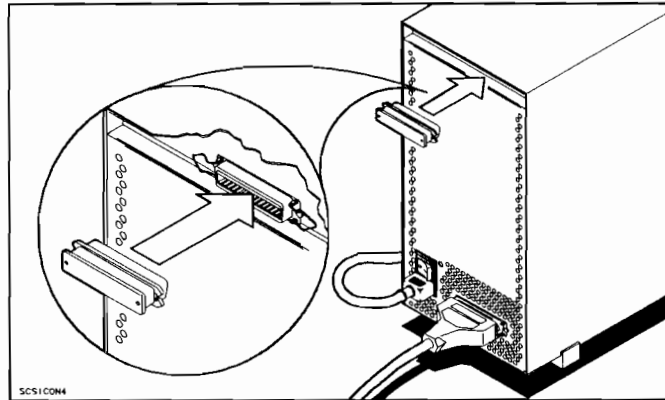

Figure 1-5. Installing a SCSI Terminator
4. Install a SCSI terminator on the unused SCSI connector. Push the retaining clips over the SCSI terminator (see Figure 1-5).